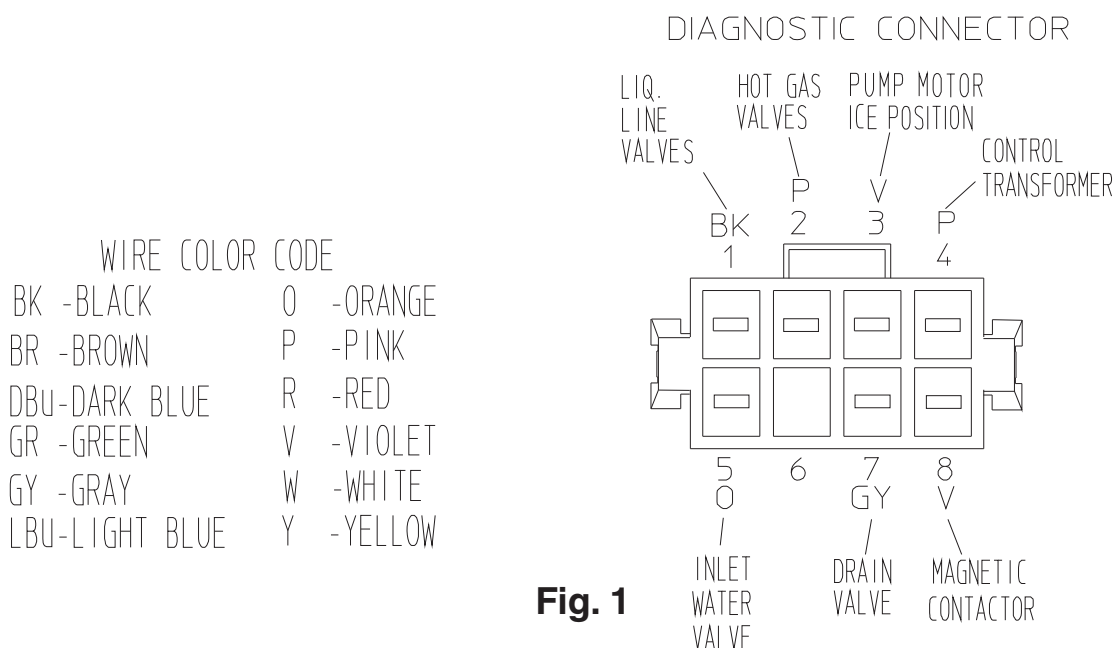

Fig. 1
The diagnostic procedure is basically a sequence check that allows you to diagnose the electrical system and components. Before proceeding, check for correct installation, proper voltage per unit nameplate, and adequate water supply (minimum of 10 PSIG, maximum of 113 PSIG). Check that the 115VAC 10A fuses located in the SRK and KMS are good and that the wire harness is connected correctly. If the icemaker is in alarm, see "IV.B. Control Board Check" or "II.C.2. LED Lights and Audible Alarm Safeties." Check the dip switch settings to assure that S1 dip switch 7 through 10 and S2 dip switch 1 through 6 are in the factory default position. S1 dip switch 1 through 6 are cleaning adjustments and the settings are flexible. For factory default settings, see "II.C.3.a) Default Dip Switch Settings." As you go through the procedure, check to assure the components energize and de-energize correctly. If not, those components and controls are suspect. To check voltages coming from CB, a diagnostic connector is provided. See Fig. 1. When checking high-voltage, always choose a neutral (W wire) to establish a good neutral connection.
- 5) Utilize the diagnostic connector (Fig. 1.) to verify output voltage from CB to components. With the unit in the cycle to be tested, check CB output voltage from the corresponding terminal on the diagnostic connector to a neutral (W wire). If output voltage is not present and the appropriate LED is on, replace CB.